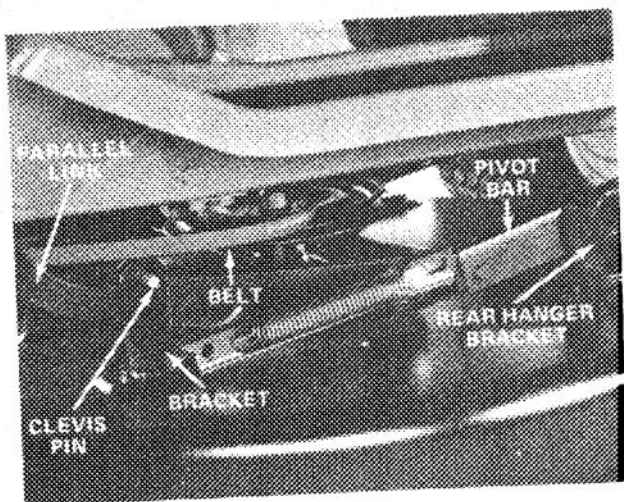

Figure 35
3. Insure the height-of-cut lever is in the lowest height setting. Position the cutting unit so the parallel links bisect the front brackets on each side and insert the clevis pins into the bracket holes from the inside toward the outside (Fig. 35).
4. Slip the cutting unit drive belt around the spindle drive pulley, then lift the rear of the cutting unit and position the rear hanger brackets so they just rest over the top of the pins extending out from the pivot bar (Fig. 35). Insure belt is installed on front engine pulley.